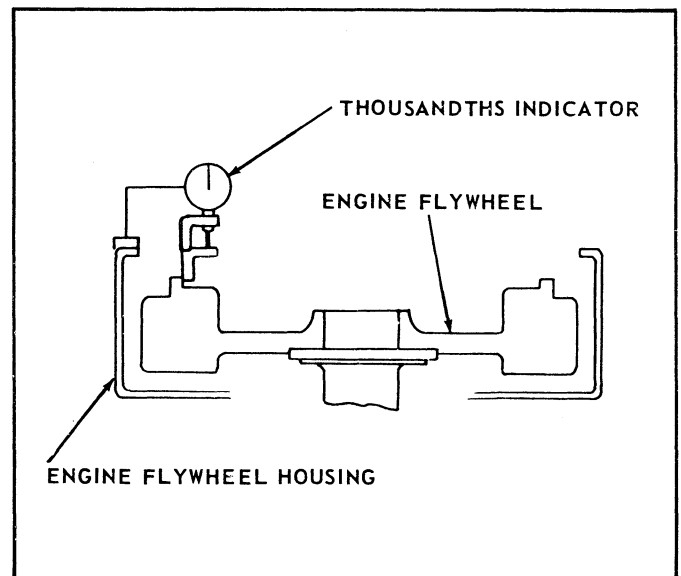

Figure 42. Checking the Bore of the Engine Flywheel Housing.
C. Checking Bore of Engine Flywheel Housing. With indicator bolted as in Paragraph 66B above, adjust the indicator stem so that it will ride on the bore of the engine flywheel housing (fig. 42).